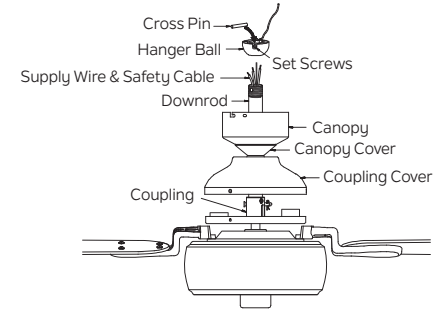

Fig. 11
Step 8. Slip the coupling cover, canopy cover and canopy onto the downrod. (Fig. 11)